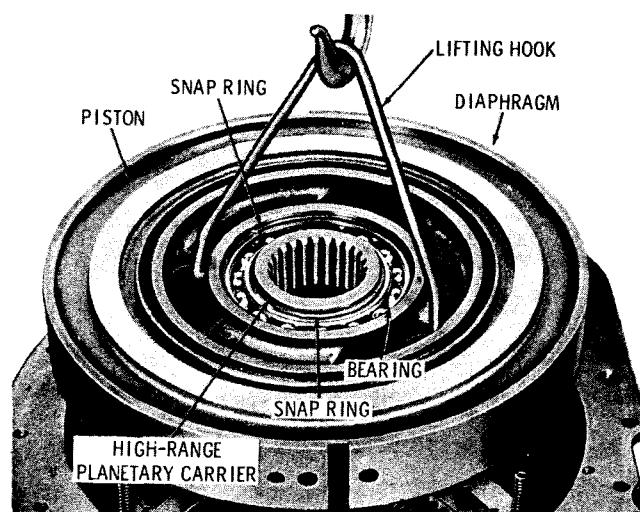

Fig. 7-18. Installing diaphragm
(18) Install ball bearing 22 (B, foldout 8) into diaphragm 28. Retain it with snap ring 21. Install the high-range planetary carrier assembly 10 (A, foldout 9) into the bearing. Retain the carrier assembly with snap ring (fig. 7-18).
(19) Install piston 25 (B, foldout 8) with its sealrings and expanders, narrow flat face outward, into the front of diaphragm (fig. 7-18).
(20) Install piston 7 (A, foldout 9), with its sealrings and expanders, narrow flat face outward into the rear of the diaphragm.
(21) Install thrust washer 21 (A, foldout 9) onto the rear hub of carrier 12. Retain the thrust washer with oil-soluble grease.
(22) Using the special lifting hook (refer to para 4-3a), install the diaphragm and parts assembled in (18) through (21), above, into the transmission (fig. 7-18).